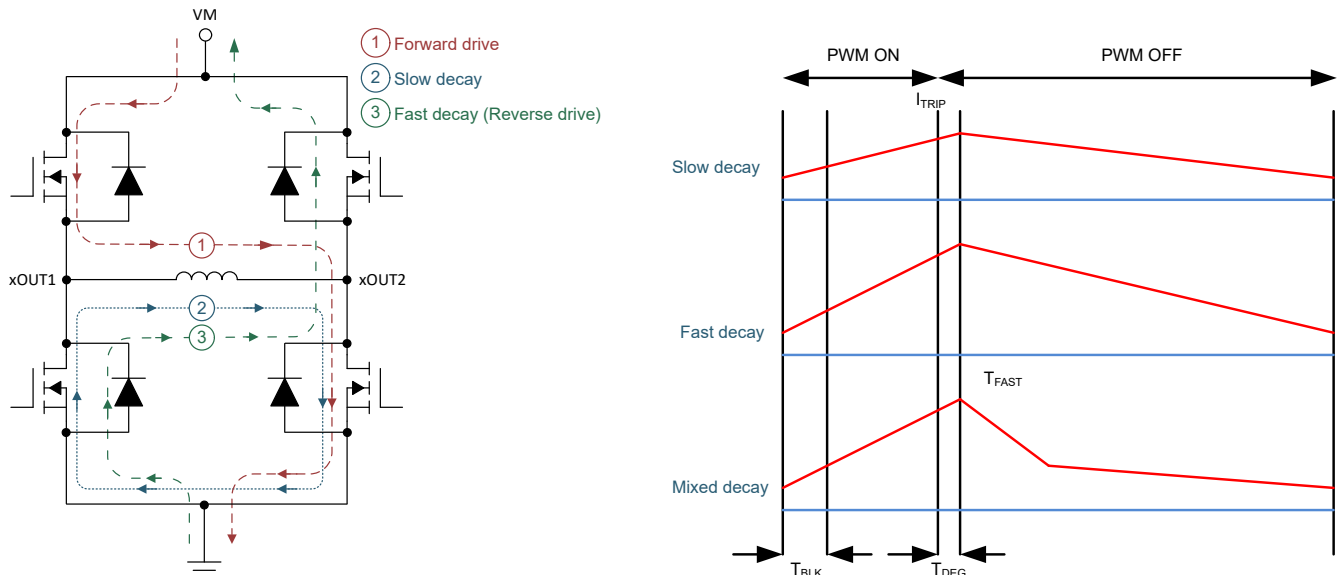

Figure 7-12. Decay Modes
During PWM current chopping, the H-bridge is enabled to drive through the motor winding until the PWM current chopping threshold is reached. This is shown in Figure 7-12, Item 1.
- In fast decay mode, as soon as the PWM chopping current level is reached, the H-bridge reverses state by switching on the opposite arm MOSFETs to allow the winding current to flow in the opposite direction. As the winding current approaches zero, the H-bridge is disabled to prevent further reverse current flow. Fast decay mode is shown in Figure 7-12, item 3.
- In slow decay mode, the winding current is re-circulated by enabling both low-side MOSFETs in the H-bridge. This is shown in Figure 7-12, Item 2.